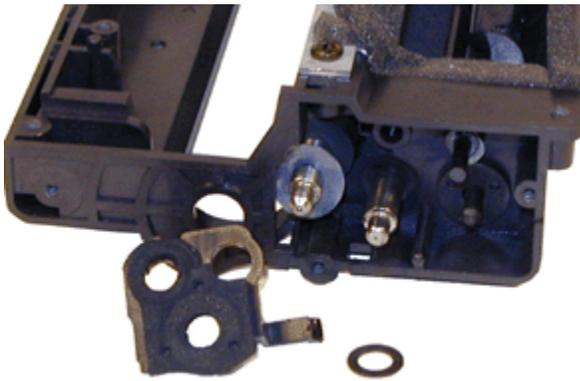

FIGURE 18
15. Gently pry out the roller plate from the cartridge. The foam seal, and plastic flat washer will come out with it. Be careful not to damage the foam seal, or loose the flat washer. See Figure 18